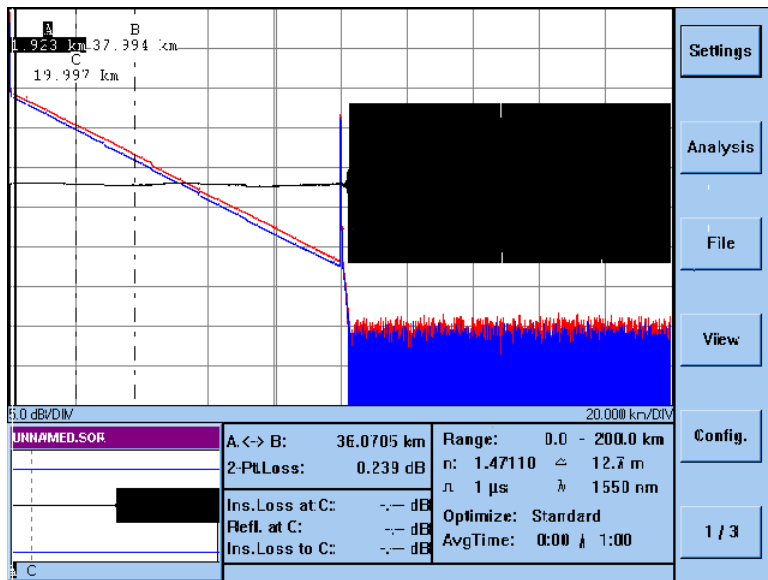

Figure 3-9 Subtract Measurements: result
- The second trace is now subtracted, and you see a third trace showing the differences (Figure 3-9).